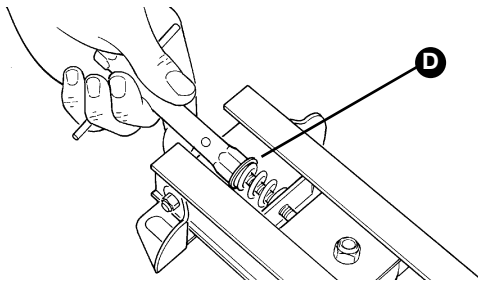

Figure 18
**2** Loosen the M8 nut **[D]** completely, as shown in figure 18.